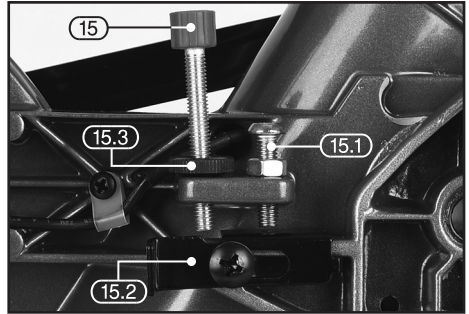

FIG.27
## 9.2 ADJUSTABLE DEPTH STOP – FIGS.27 – 28
**Stock No.79889 (Fig.27):**
- If a different depth of cut is required, raise the head to its uppermost position. Pull the depth stop (15.2) forward, loosen lock nut (15.3) and adjust the depth adjustment screw (15) to the required position.